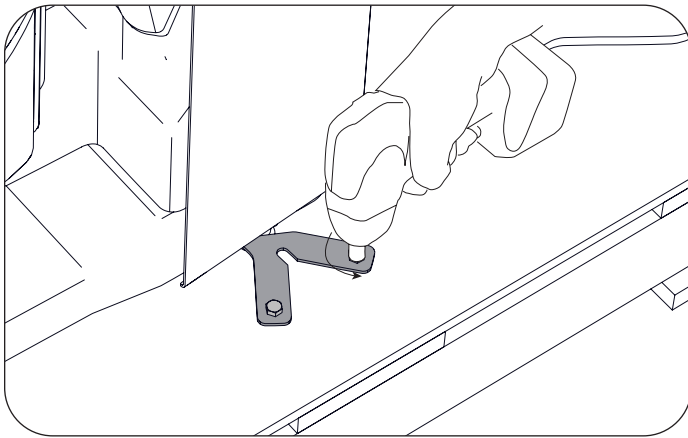

Figure 4. Remove Shipping Brackets
4. Remove the 2-4 steel shipping brackets securing the table to the pallet (Figure 4). The brackets hook onto the table levelers to hold the table securely to the pallet. Remove the 2 bolts from each bracket using a 7/16" socket or wrench. Take care not to scratch the unit when using the driver or turning the wrench. Remove brackets from levelers once bolts are removed.